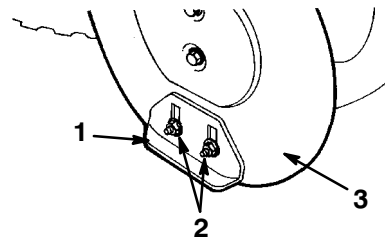

Figure 25
- Loosen the four flange nuts that secure both skids to the auger side plates (Fig. 25) until the skids slide up and down easily.
- Tighten the four flange nuts that secure both skids to the auger side plates (Fig. 25).